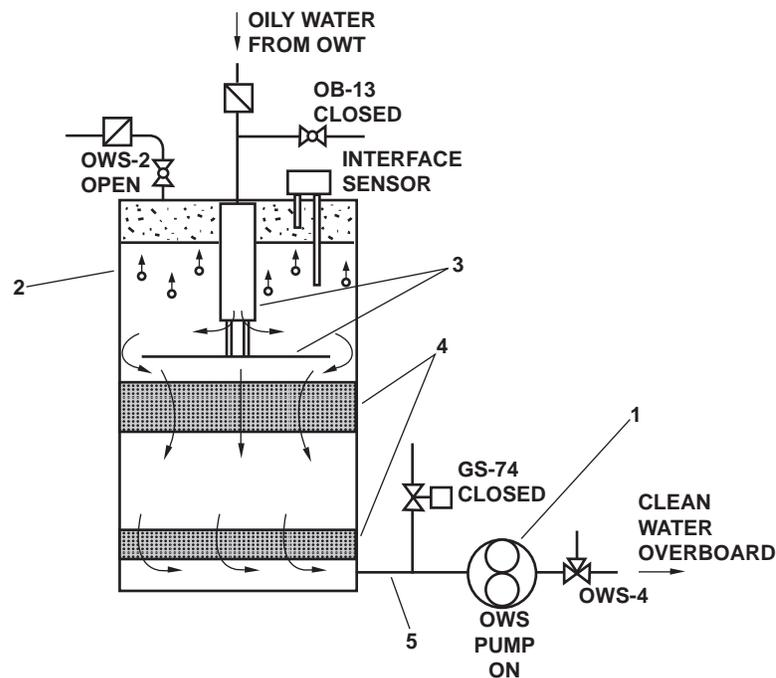

Figure 1. Normal Processing Mode
A positive displacement pump (figure 1, item 1), mounted downstream of the OWS tank, draws unprocessed oily water from the Oily Waste Tank (OWT) into the separator (figure 1, item 2). The separator consists of a single tank in which several oil-separation zones are created by the inlet weir and baffle arrangement, (figure 1, item 3), two permanent polypropylene coalescer beds (figure 1, item 4), and the water spaces between them. In this design, the oil-water separation is accomplished in two stages. The upper zones of the tank promote gravity separation. The inlet baffle directs the flow of oil droplets away from the upper coalescer bed. This provides an extended retention time for the oil droplets in the upper portion of the tank, which enables the larger oil particles to separate and rise to the tank top. The inlet weir separates the oil accumulated in the tank from the inlet flow. This helps to prevent remixing of the accumulated oil in the tank top during the normal operation and manual
backflush modes. Oil droplets that flow past the inlet baffle accumulate on the polypropylene granules (beads) in the coalescer, which have 10-mesh screen tops and bottoms to hold the raw polypropylene granules. The polypropylene granules attract oil and repel water (oleophilic-hydrophobic), allowing water to flow through, while the oil remains temporarily trapped in the coalescer granules. As the accumulated oil droplets combine and grow in size (coalesce), they become more buoyant, then break away and rise to the top of the tank. The lower coalescer bed functions like the upper one, but is thinner and acts like a polishing bed. The water space between these beds isolates them, preventing contamination of the lower by the upper. The clarified effluent, having passed through both coalescer beds, is drawn through the outlet in the tank bottom (figure 1, item 5) and piped overboard or recirculated back to the OWT. The destination of the discharge is controlled by the OCM, whose theory of operation is detailed later in this work package.